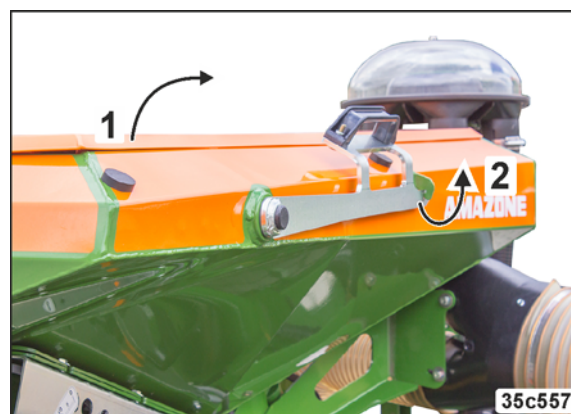

Fig. 241
4. Open the cover (Fig. 241/1) of the hopper.
- 4.1 Unlock the lever (Fig. 241/2).
- 4.2 Open the lid (Fig. 241/1) by actuating the lever.